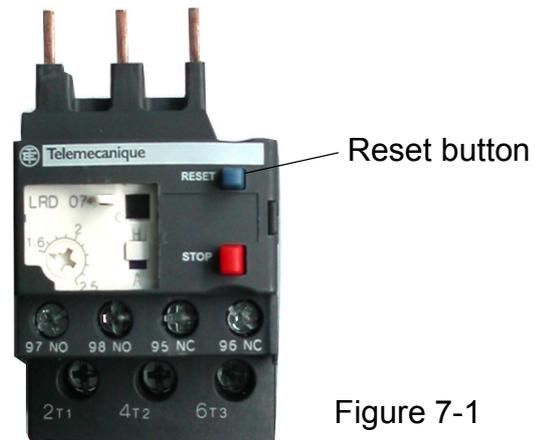

Figure 7-1
9. If the drive motor is protected as overload or high temperature, please assure the reason of protection at first. When solve a problem, then press the reset button (blue color button) in the thermal overload relay shown in Figure 7-1. The thermal overload relay is located left side of reducer.